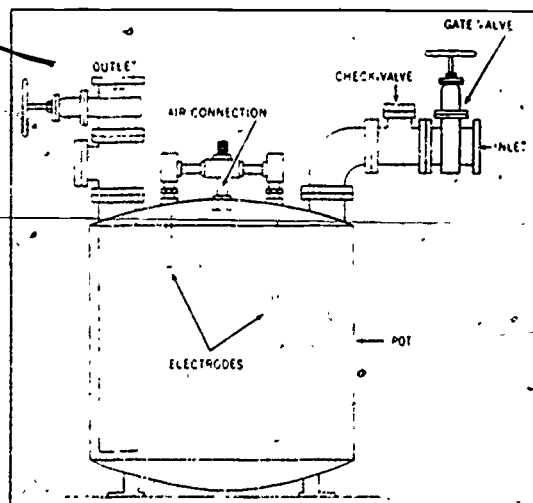

Figure 5-31. Pneumatic sewage ejector.
**Pneumatic Sewage Ejectors.** Pneumatic sewage ejectors are vessels that collect waste below ground level and force it to a place of disposal above ground level. They operate on air pressure. The amount of waste they are capable of transferring is determined by the size of the unit. A diagram of a pneumatic sewage ejector is shown in figure 5-31. The pneumatic sewage ejector is installed in the line between two sections of pipe by connecting the pipe fittings to the appropriate inlet and outlet connections on the sewage ejector.